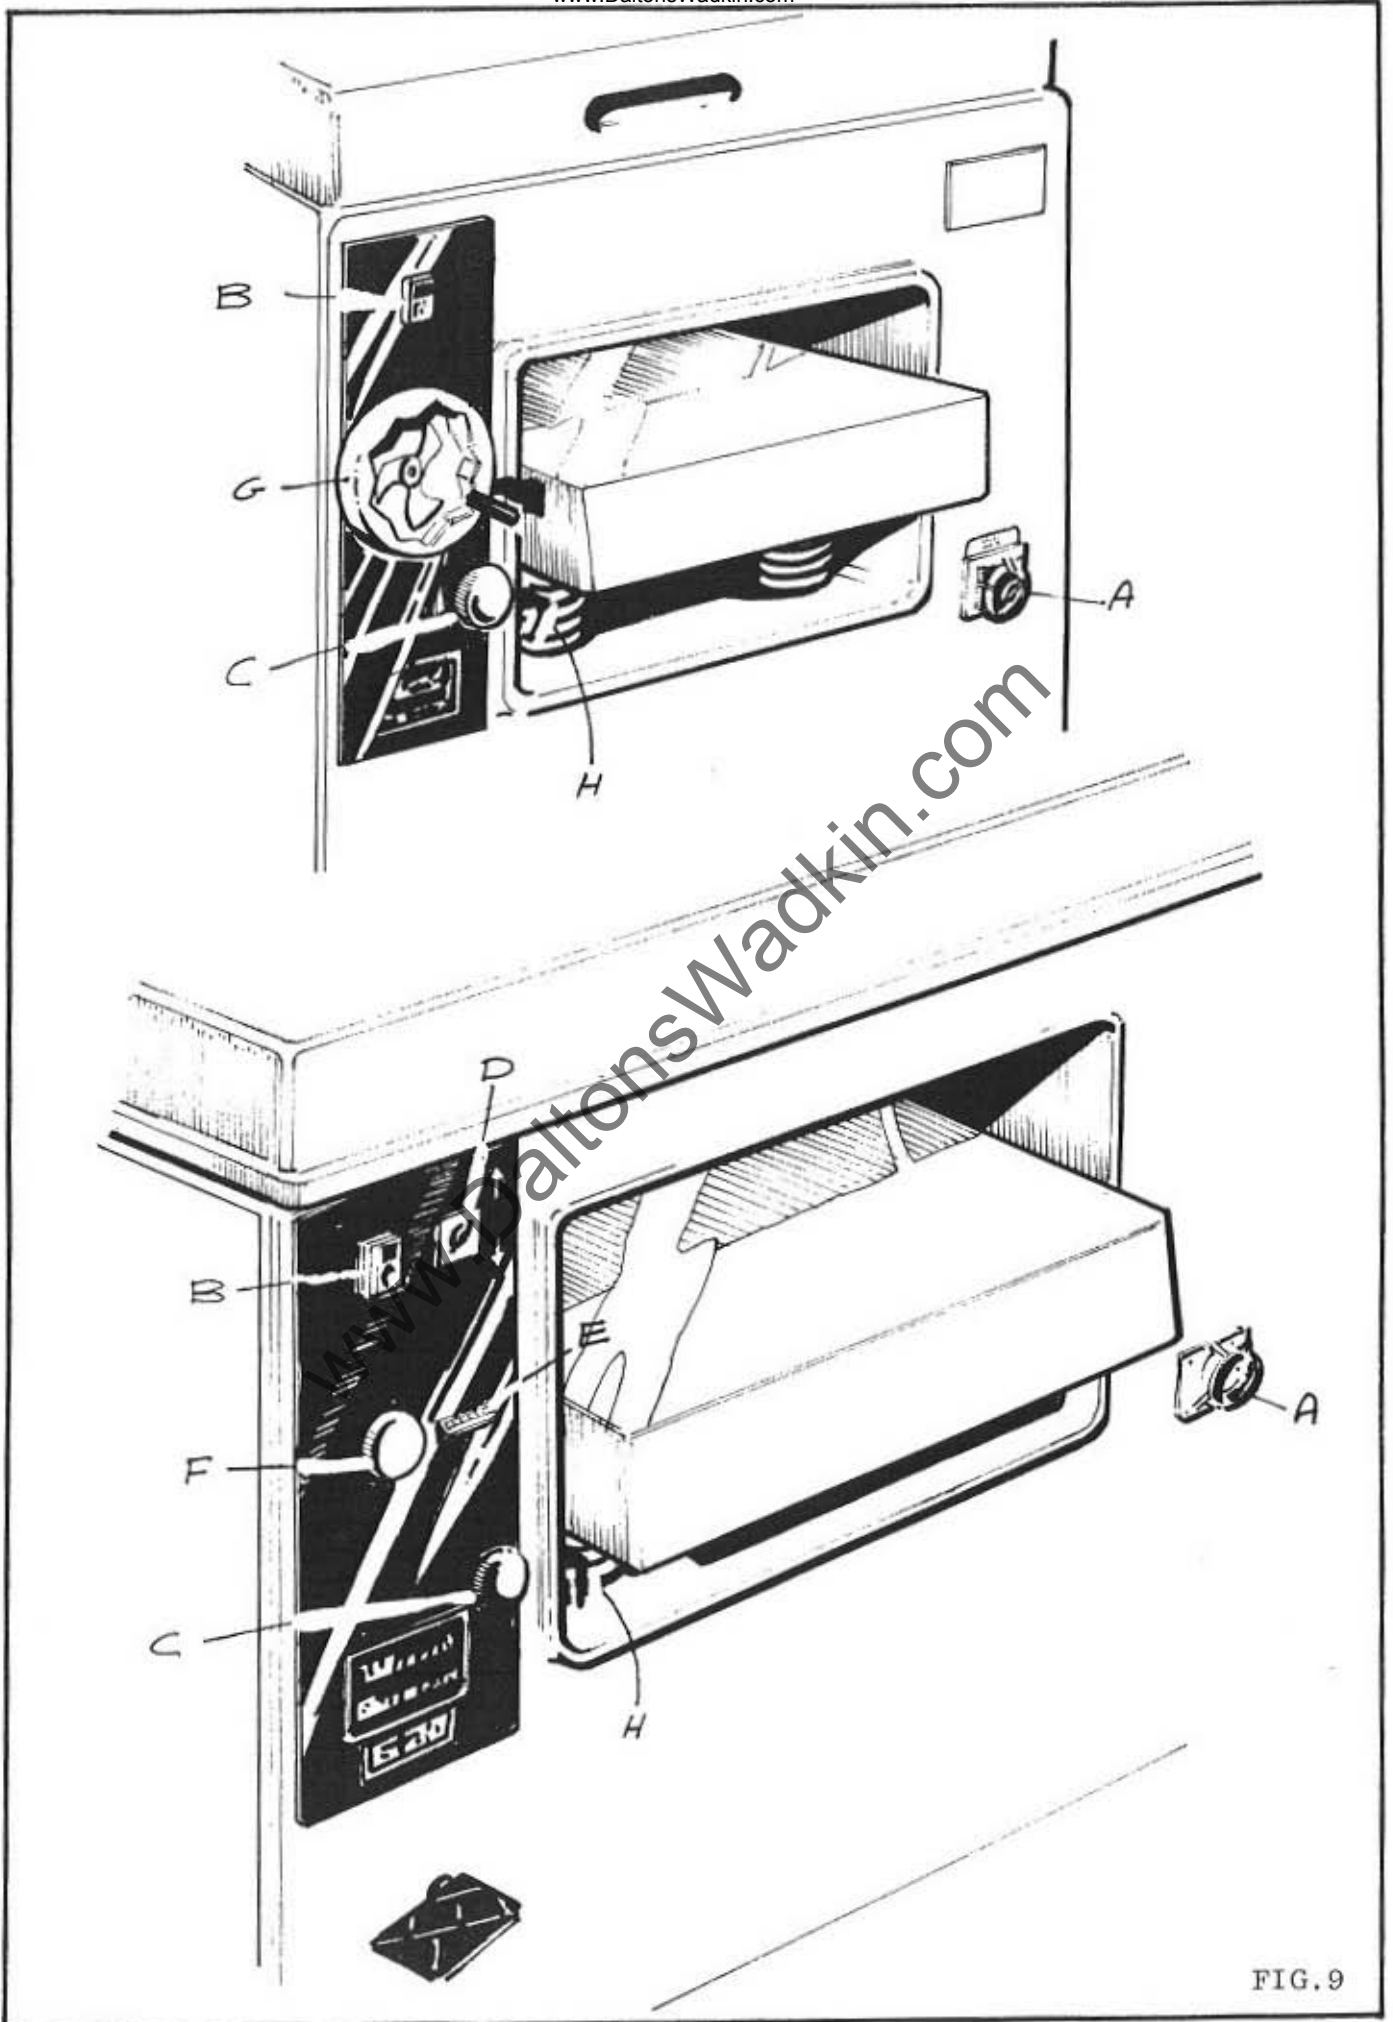

FIG. 9
When an isolator is fitted proceed as follows, (FIG.9) :-
Turn variable feed speed handwheel C clockwise for slow speeds - anti clockwise to increase speed. (FIG.9)
3. Check digital timber thickness counter E (FIG.9) to ensure correct table position for timber to be planed.
Apart from the power rise and fall previously mentioned, the machine is equipped with a hand fine adjustment F. Used in conjunction with the power rise and fall lever D (FIG.9) the thickness dimension required can be quickly and precisely set. Conversely handwheel F may be used to rise and fall the table through its full travel, is so desired.
A digital timber thickness indicator E is conveniently situated on the panel face. This scale is operated by vertical movement of the table. (FIG.9)
3. Turn variable feed speed handwheel C (FIG.9) anti clockwise to maximum position.